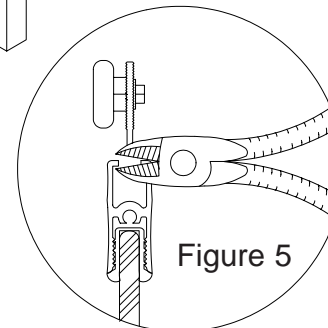

Figure 5
7. Now crimp the roller brackets as shown in (Figure 5.)